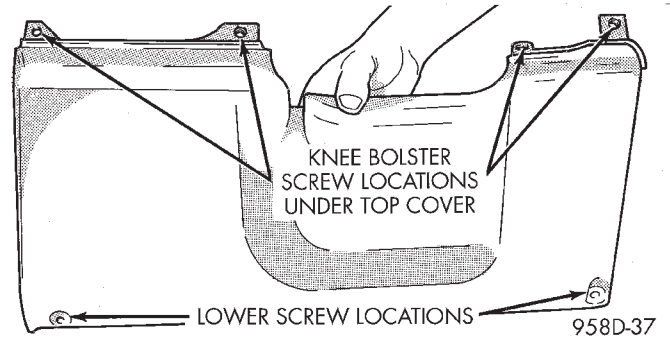

Fig. 54 Knee Bolster Attaching Points
- (5) Pull instrument panel top cover up enough to gain access to knee bolster screws (Fig. 54).
- (6) Remove lower knee bolster screws and knee bolster.